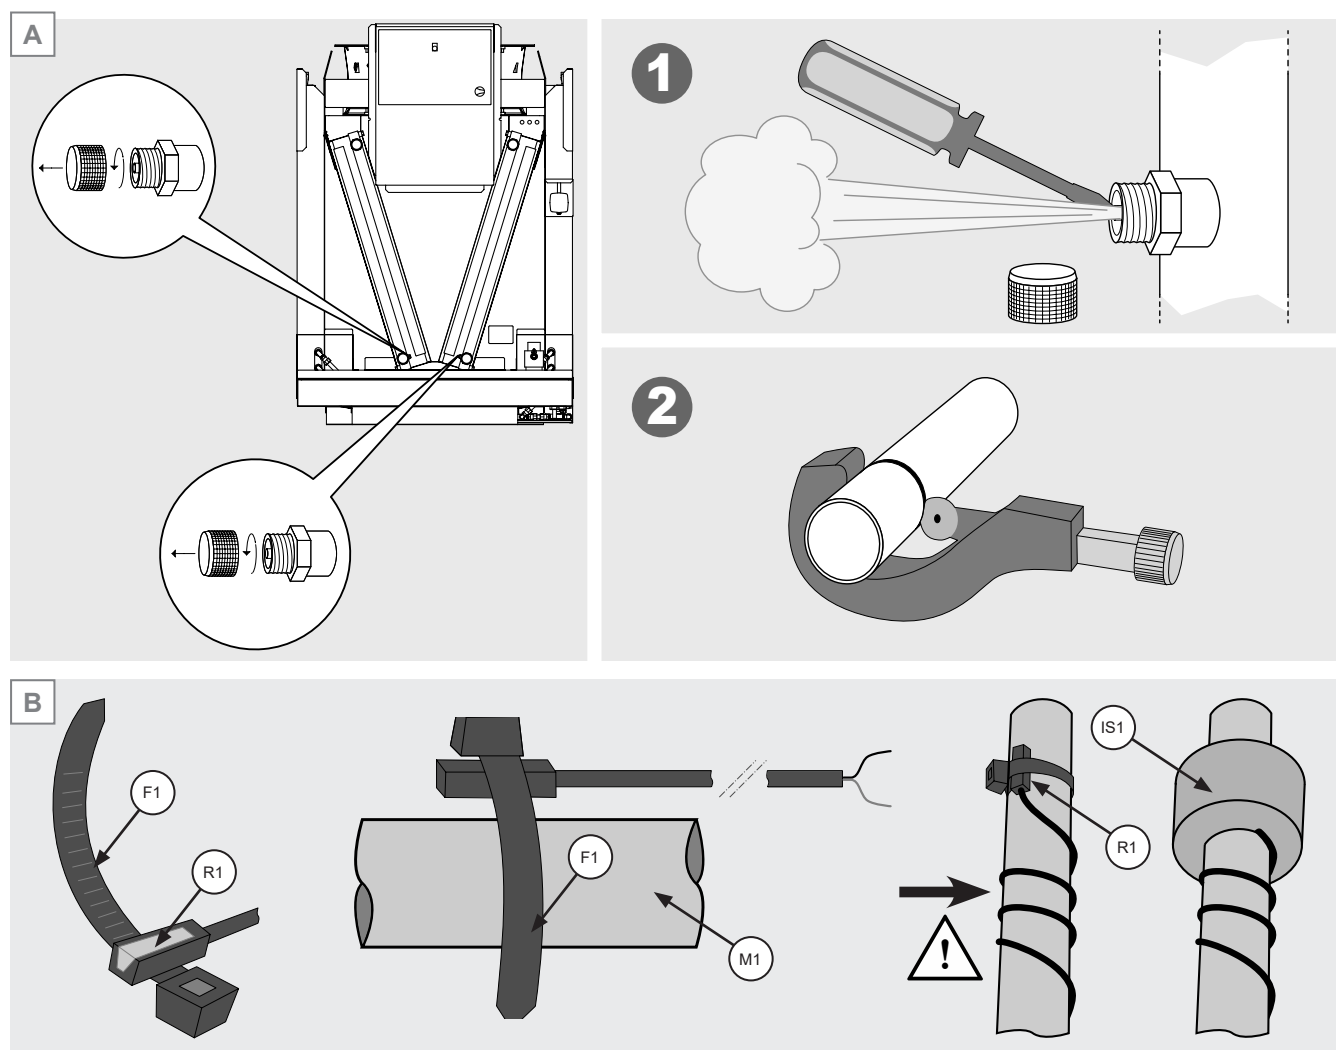

Figure 10
- 6.13 For AVK condensers and AVS gas coolers, discharge the pre-charge pressure (approx. 2 bar) from the heat exchanger before cutting the inlet and/or outlet sleeves. See Figure 10 A.
- 6.14 For gas cooler models only: it is the customer's responsibility to install the temperature probes on the heat exchanger outlet sleeves. The probes consist of a clamp (F1) which supports the detector (R1): the clamp must be fixed to the sleeve (M1) and the electrical cable (C1) must be wound with 2 coils on the tube itself. Thermally insulate the probe with the appropriate insulation (IS1). See Figure 10 B.